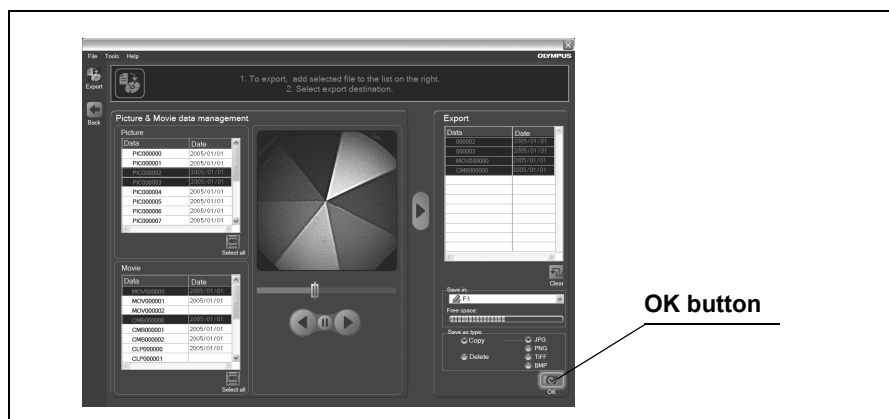

Figure 6.120
7. Click the [OK] button on the export screen (see Figure 6.120). The selected files will be exported. The progress screen is displayed while the files are being exported.